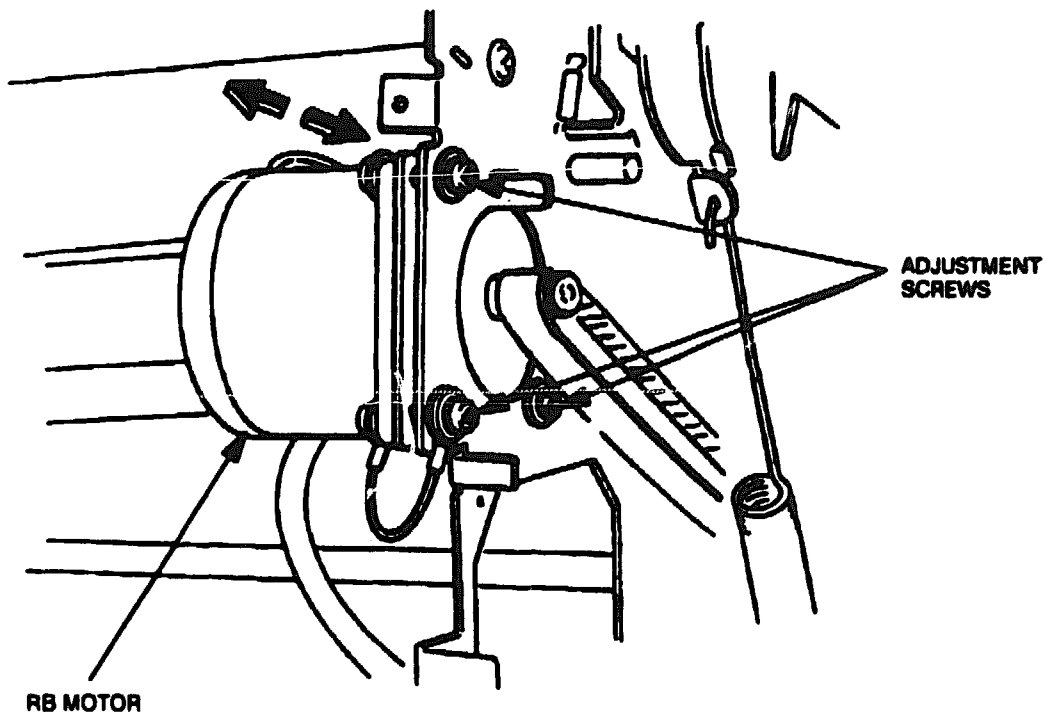

Figure 4-7 RB Motor Tension Belt Adjustment
3. Loosen the three screws securing the RB motor assembly (see Figure 4-7).